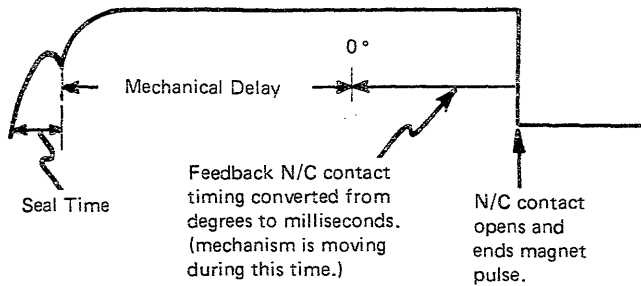

Figure 1-24. Magnet Pulse Waveform
- 22.1 Many adjustments made in the field require the use of the spring scale. Reports indicate that inaccurate scale readings have resulted from incorrect zero adjustment before measurements are made. The zero adjustment can be made by removing the two screws that fasten the end cap, and removing the end cap. This exposes an adjustable collar secured by a No. 4 Allen screw (Figure 1-24). The zero adjustment can be made by loosening the Allen screw and repositioning the collar on its shaft. The hook may have to be removed from the scale to allow the shaft to move far enough to expose the Allen screw; however, the hook should be replaced when checking the zero adjustment. Correct adjustment is checked by holding the scale in the upright position (hook hanging down) and observing that the scale reads exactly 0.